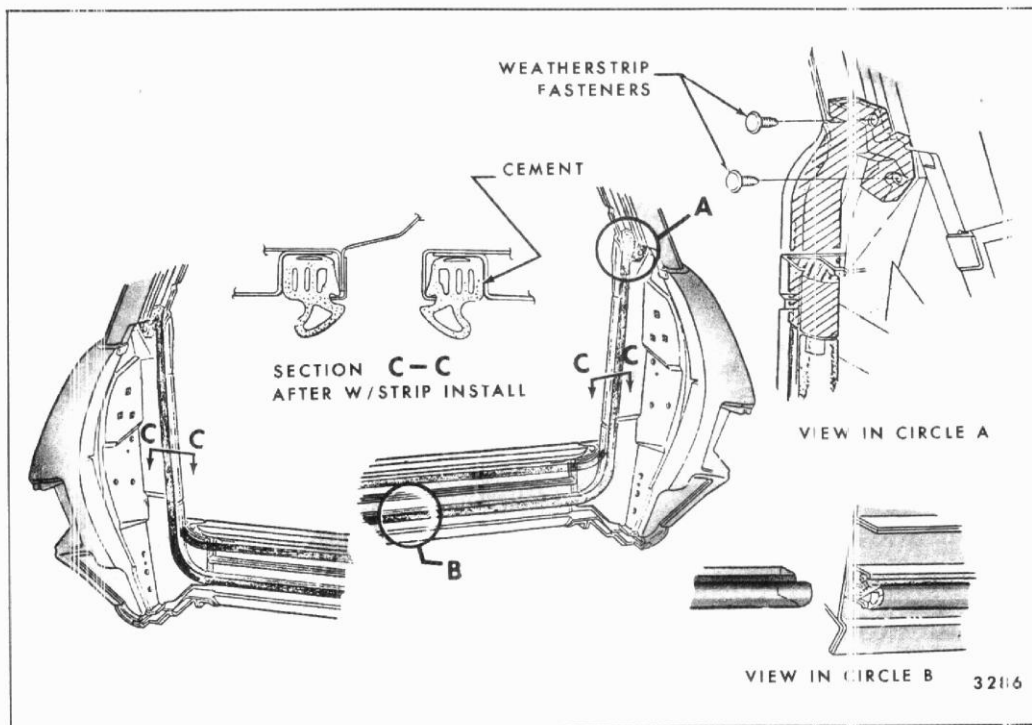

Fig. 9-4-Tail Gate Weatherstrip Installation
1. Open tail gate and remove fasteners and/or screws securing upper corners of weatherstrip to right and left body pillars (Fig. 9-4).